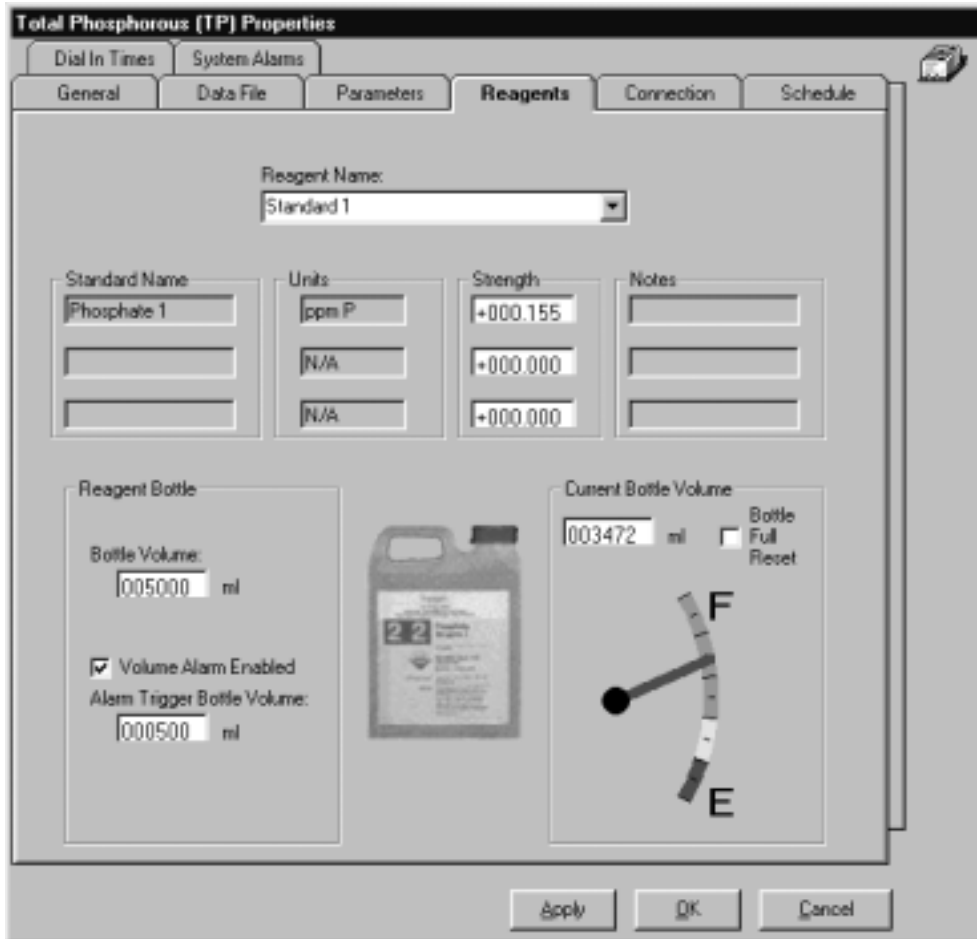

Figure 10.3: The Reagents tab
3. Select the *Reagents* tab. The Reagents tab is shown in Figure 10.3.